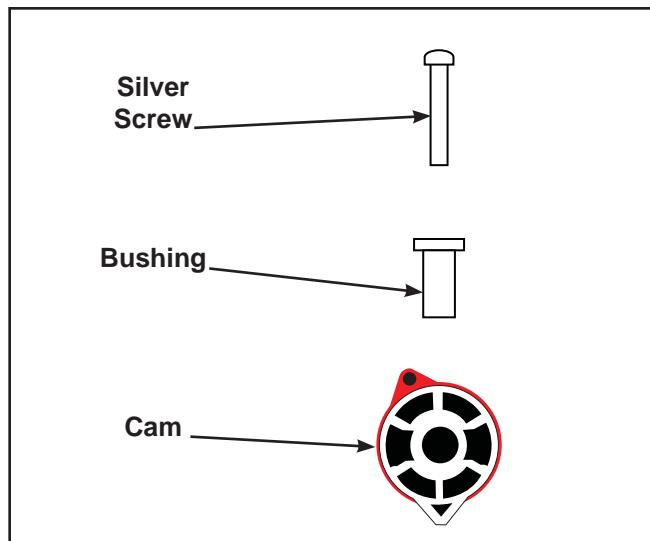
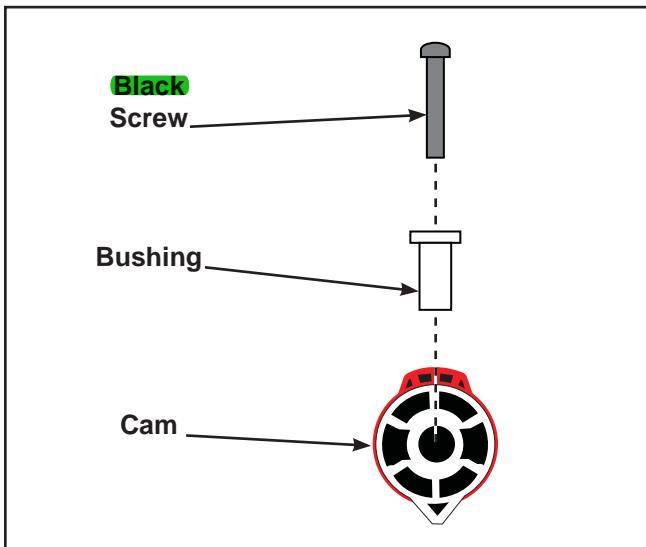

Figure 6
Figure 7
- B. Remove the bushing from the cam and set aside. See Figure 6.
- B. Assemble the cam by placing the **black** screw and bushing (from step 6B) into the cam. See Figure 7. **NOTE:** The new cam has a larger red tab. Compare the cam shapes in Figures 6 and 7.